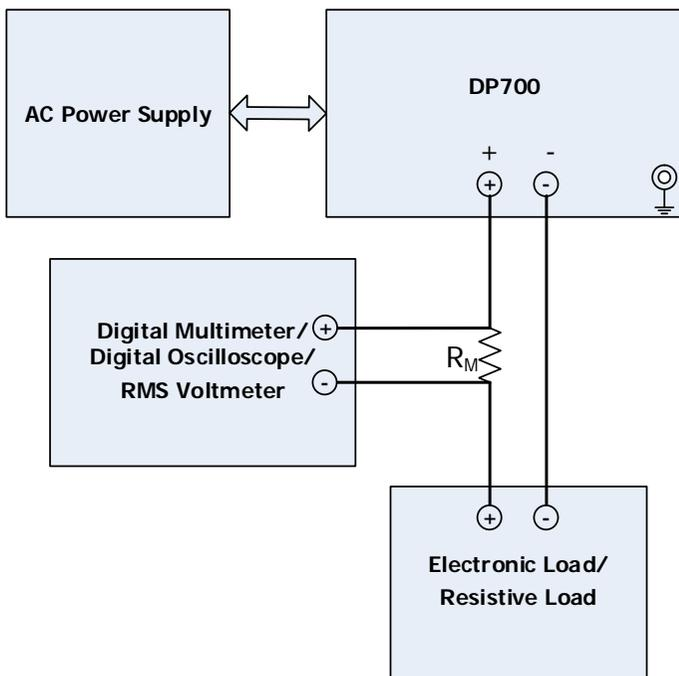
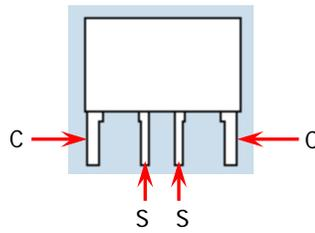

Figure 3-1 CC Test Connection
Figure 3-2 Current Sampling Resistor
Before performing the test, select the appropriate AC voltage via the "AC Selector" on the rear panel of the power supply according to the AC voltage standard of your country (220 Vac is taken as an example in all the tests in this manual). At room temperature (25°C), connect the recommended devices specified in "Recommended Test Devices" according to Figure 3-1 (For the CC ripple and noise test, connect the required devices according to Figure 2-1). During the test process, please set the AC voltage according to the selected voltage in "AC Selector" on the rear panel of the power supply.
Note: The R_M in Figure 3-1 is a 4-wire current sampling resistor (please select a current sampling resistor with a proper resistance according to the test item and the output channel), as shown in Figure 3-2. C indicates the current measurement
1. Power off DP711. Connect DP711, AC power supply, a current sampling resistor (the resistance R_M is 0.022Ω), an electronic load, and a digital multimeter according to Figure 3-1. Please pay attention to the connection method for the current sampling resistor, the electronic load, and the channel output terminals of DP711; as well as the connection method for the current sampling resistor and the digital multimeter.
1. Power off DP711. Connect DP711, AC power supply, a current sampling resistor (the resistance R_M is 0.022 Ω), an electronic load, and a digital multimeter according to Figure 3-1. Please pay attention to the connection method for the current sampling resistor, the electronic load, and the channel output terminals of DP711; as well as the connection method for the current sampling resistor and the digital multimeter.